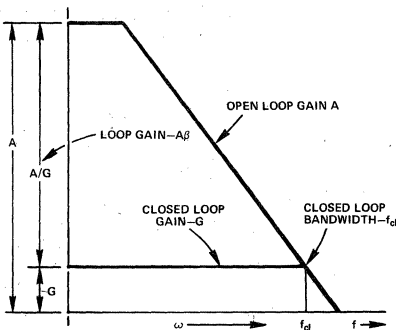

Figure 4. Closed Loop Bandwidth and Loop Gain
2. *What closed loop gain and bandwidth are required?* Closed loop gain, G , is dictated by the application. To a first approximation the intersection of the open and closed loop gain curves in Figure 4 gives the closed loop bandwidth, f_{c1} (-3dB). For high gain, wideband requirements, it may be necessary, or more economical, to use two amplifiers in cascade each at lower gain.
3. *What loop gain is required or alternatively what gain stability, output impedance and/or linearity are necessary?* The available loop gain at a particular frequency or over a range of frequencies is very often more important than closed loop bandwidth in selecting an amplifier. Loop gain as illustrated in Figure 4, is defined as the difference, in dB, or as the ratio, arithmetically, of the open to closed loop gain ($A\beta = A/G$). You will find in most of the equations defining the closed loop characteristic of a feedback amplifier that the loop gain ($A\beta$) is the determining factor in performance. Some of the more notable examples of this point are as follows: